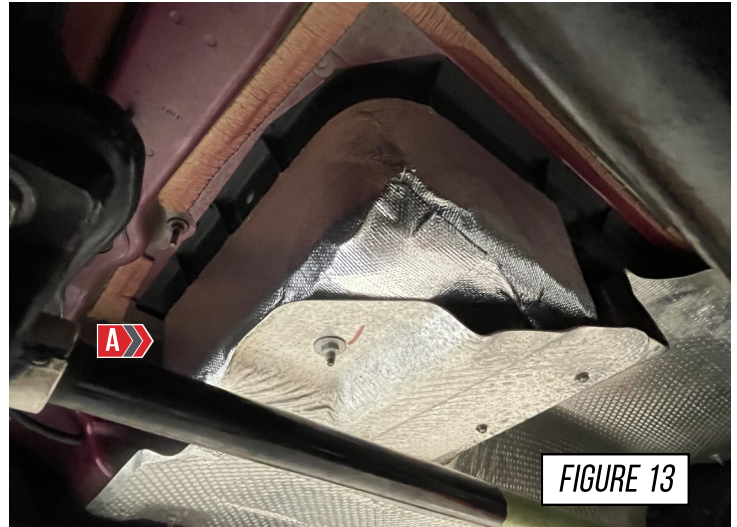

FIGURE 13
Install piece B by wrapping from the back of the cavity, and move forward. Start 1 inch around the back corner, as shown at (A) in **Figure 13** then wrap towards the front of the cavity. The slit should align on the front corner.
The result should look similar to what can be seen in **Figure 13**.